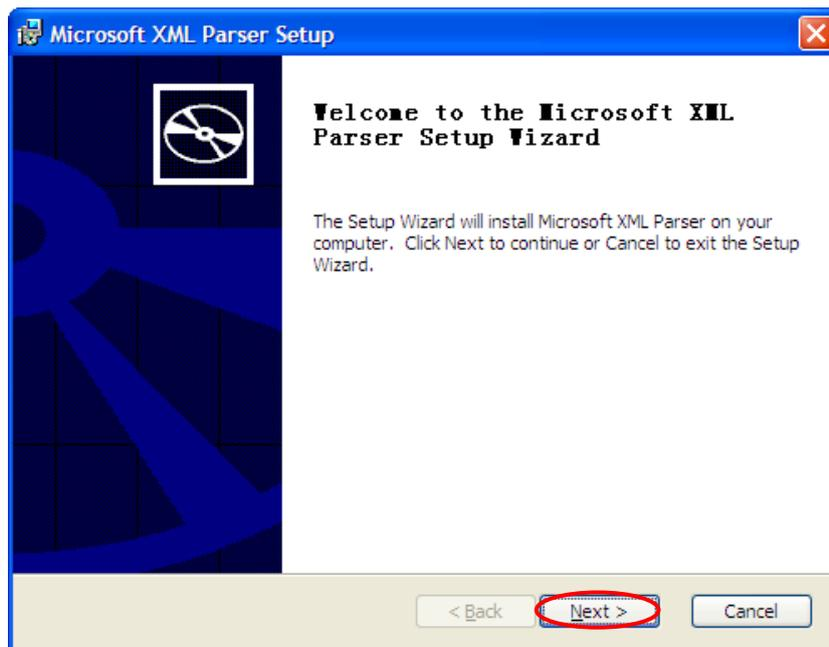

Figure 1-1-5 Installation Steps (5)
- Enter MSXML 3.0 setup wizard and click “Next”, as shown in figure 1-1-5.